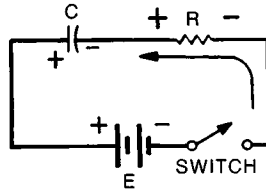

Figure 3-10
Figure 3-10 shows a simple series resistor-capacitor (RC) circuit connected to a DC voltage source. With the switch open and the capacitor initially discharged, no current flows in the circuit. However, when you close the switch, the capacitor starts to charge. Electrons from the negative terminal of the battery flow through the switch and the resistor to the right-hand plate of the capacitor. Electrons are drawn from the left hand plate of the capacitor by the positive terminal of the battery, which leaves the left plate positively charged. Once the capacitor is fully charged, current flow ceases. During the charging time, electrons flow through resistor (R) in the direction shown. This results in a voltage drop across the resis-
The series combination of resistance and capacitance shown in Figure 3-10 is a common configuration. There are many variations and applications for this simple circuit. The most important characteristic of this RC combination is the time it takes to charge or discharge the capacitor. This time is referred to as the time constant, T . The time constant is the period of time it takes for a capacitor to charge to approximately 63.2% of the applied voltage. This time is the product of the circuit's resistance and capacitance value: